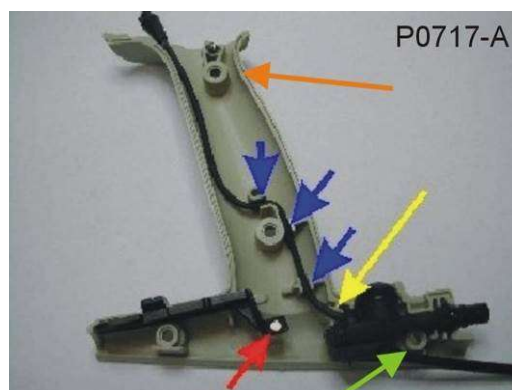

Figure 46: Handle with Wiring Loom correctly positioned.
- Lay the wiring loom into the cable channels and ensure the wiring loom plug exits the top of the handle in front of the upper screw boss. As shown in Figure 46.